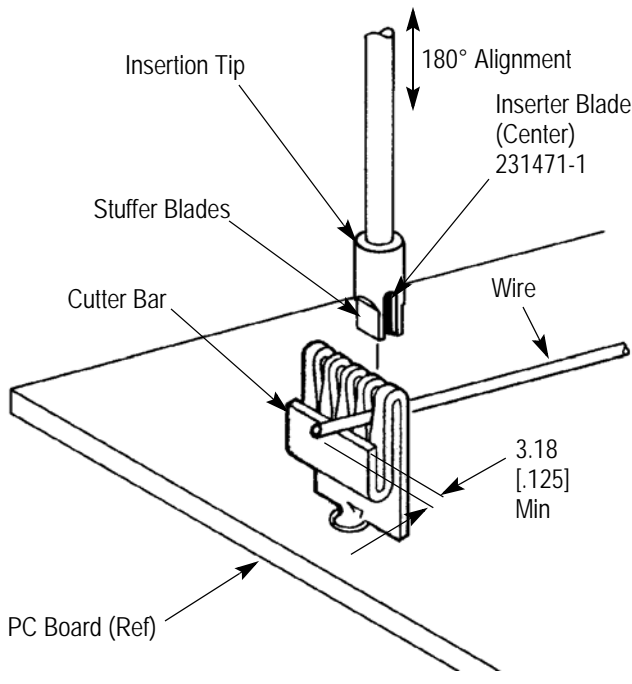

Figure 2
1. Position the wire in the terminal wire slot with a minimum of 3.18 [.125] of wire protruding over the cutter bar. Refer to Figure 2.
2. Align the insertion tip with the wire and terminal as shown in Figure 2.